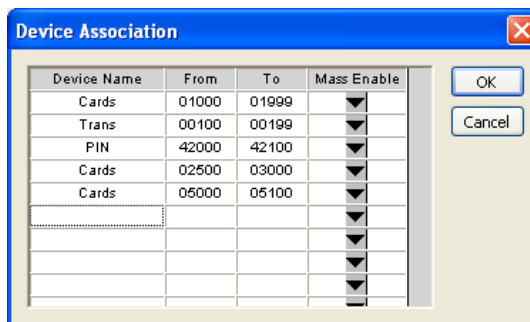
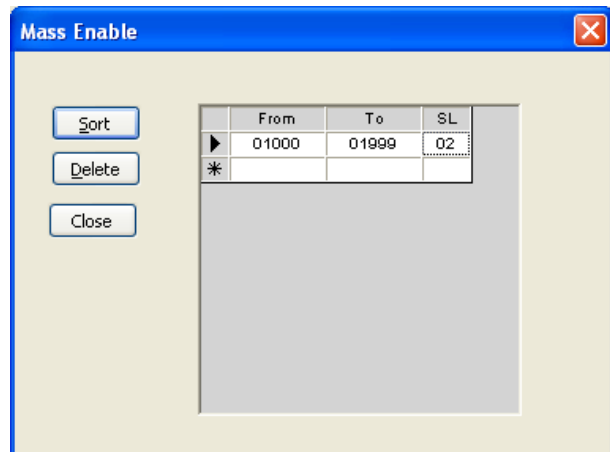

Figure 38
Figure 40
4. Repeat steps 2 and 3 to enter additional device names and ranges (Fig 38).
3. Click the ENABLE button. The codes will now be turned on and the range that you entered in step 3 will move to the field below (Fig. 40).
In the example in figure 40, device codes 01000 through 01999 have all been "Mass Enabled" and placed in security level 2 (SL02). From the device association window (fig. 38) we know that these device codes represent access cards.